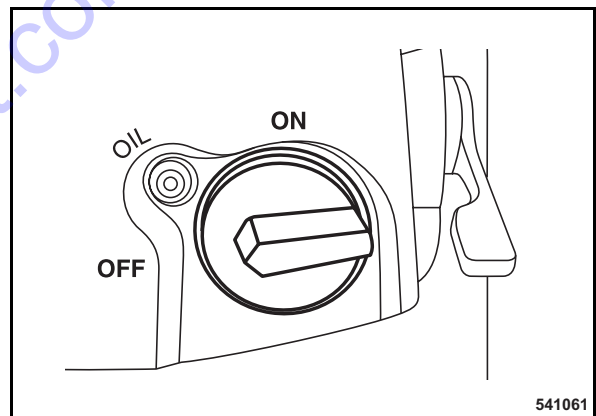

Fig. 51
- Set the engine stop switch (Fig. 51) to position "OFF" (fuel valve closed).